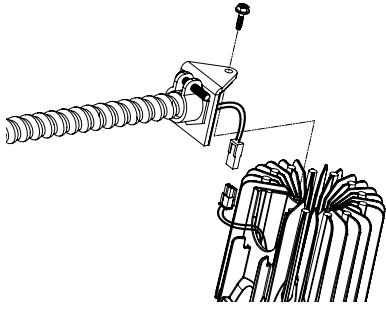

FIGURE 5
2. Connect electrical plugs and fasten conduit adapter to trim housing using the screw provided (see Figure 5).